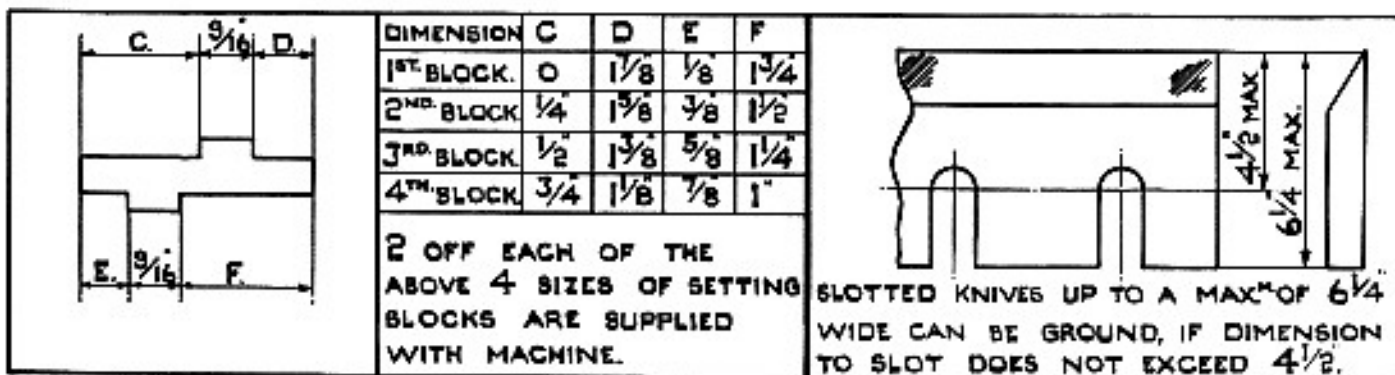

Fig. 11.
**SETTING.** A set of blocks is provided for setting knives, Fig. 11. These blocks set to the back edge of the knives, ensuring that after grinding all knives are parallel. In order to set up a number of small knives, a steel strip should be used in front of the blocks, see Fig. 11. All knives should be flat before bolting to knife carrier, if this is not so and knife is of heavy cross section, the carrier may be damaged.